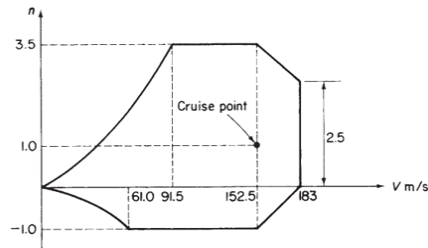

Figure 2
- Figure 2 shows the flight envelope at sea-level for an aircraft of wing span 27.5 m, average wing chord 3.05 m and total weight 196 000 N. The aerodynamic centre is 0.915 m forward of the CG and the centre of lift for the tail unit is 16.7 m aft of the CG. The pitching moment coefficient is $C_{M,0} = -0.0638$ (nose-up positive) both $C_{M,0}$ and the position of the aerodynamic centre are specified for the complete aircraft less tail unit. For steady cruising flight at sea-level the fuselage bending moment at the CG is 600 000 Nm. Calculate the maximum value of this bending moment for the given flight envelope. For this purpose it may be assumed that the aerodynamic loadings on the fuselage itself can be neglected, i.e. the only loads on the fuselage structure aft of the CG are those due to the tail lift and the inertia of the fuselage. [7M]